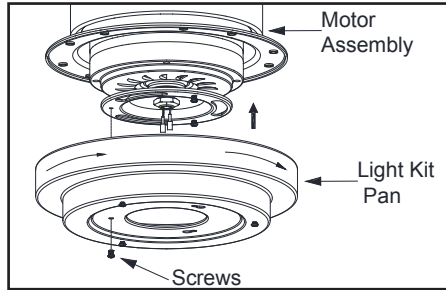

Figure 11
1. Remove one screw from the black bracket below fan motor assembly, loosen but do not remove the other two screws. (Figure 11)
2. Push the light kit pan up to the fan motor assembly so that the two loosened screw heads fit into the keyhole slots. Turn the light kit pan clockwise. Re-install the screw that was removed in step 1. Make sure all the screws are firmly tightened. (Figure 11)